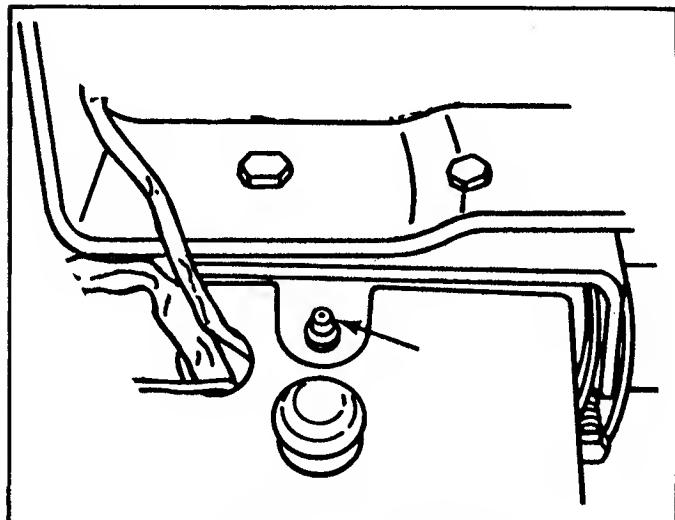

FIG. 4 — MAIN TUBE PIVOT LUBE
- MAIN TUBE PIVOT: Lubricate through fitting (figure 4.) with 2 shots of grease.